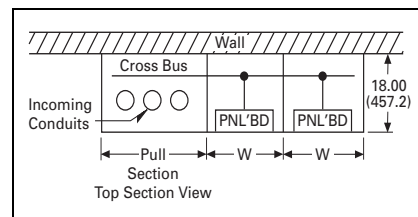

Figure 21.1-8. Section Plan View
2. With a bussed auxiliary structure for incoming cable per **Figure 21.1-8**.